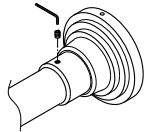

Fig. 7
- Step 7. Attached shower rod into the mounting unit and screw the shower rod in securely (Fig 7).